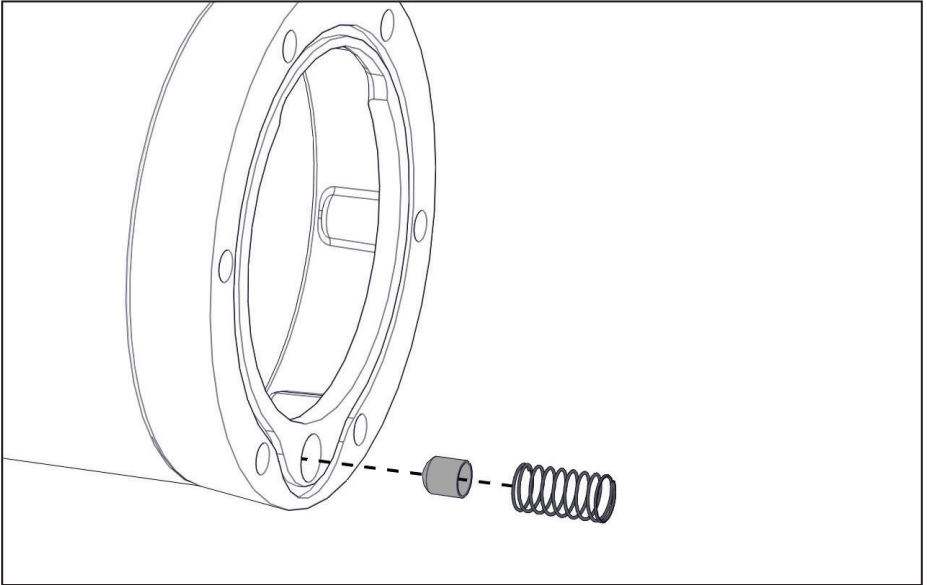

Figure 27 — Remove small spring and thimble screen
- ☐ Remove the small spring and thimble screen. The screen can be removed by carefully pushing it out of the oil scavenge hole from the inside of the AOST (Figure 27).